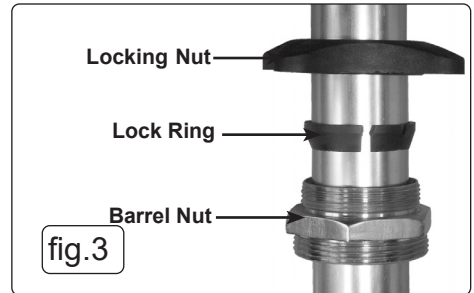

fig.3
4.1.4. Slide the locking nut, locking ring and the barrel nut onto the pick up probe of the pump (fig.3), screw the locking nut onto the barrel nut to lock the assembly to the pick up probe.